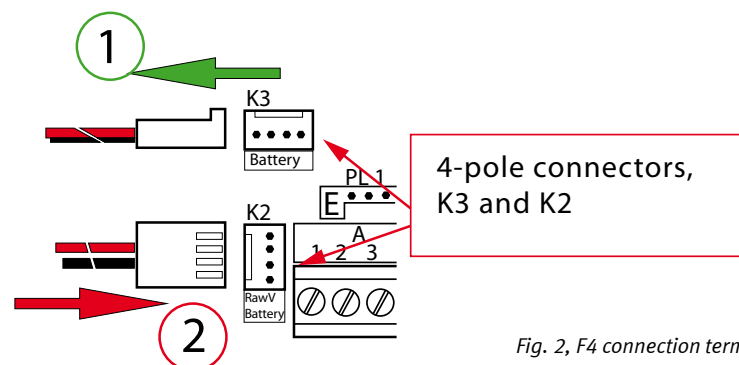

Fig. 2, F4 connection terminal
3. Cut the power by disconnecting the four-pole connectors K2 and K3, cf. Fig.2.